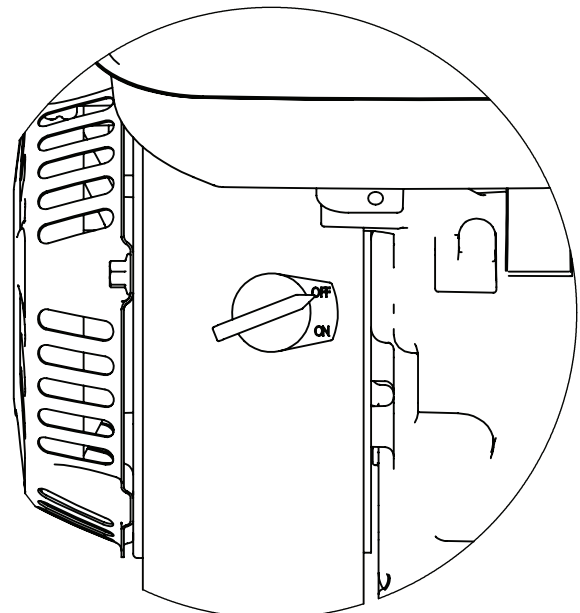

Figure 7
2. On manual-start models, turn the On/Off switch to the OFF position. For electric-start engines, turn the key to the OFF position. **SEE FIGURE 7.**